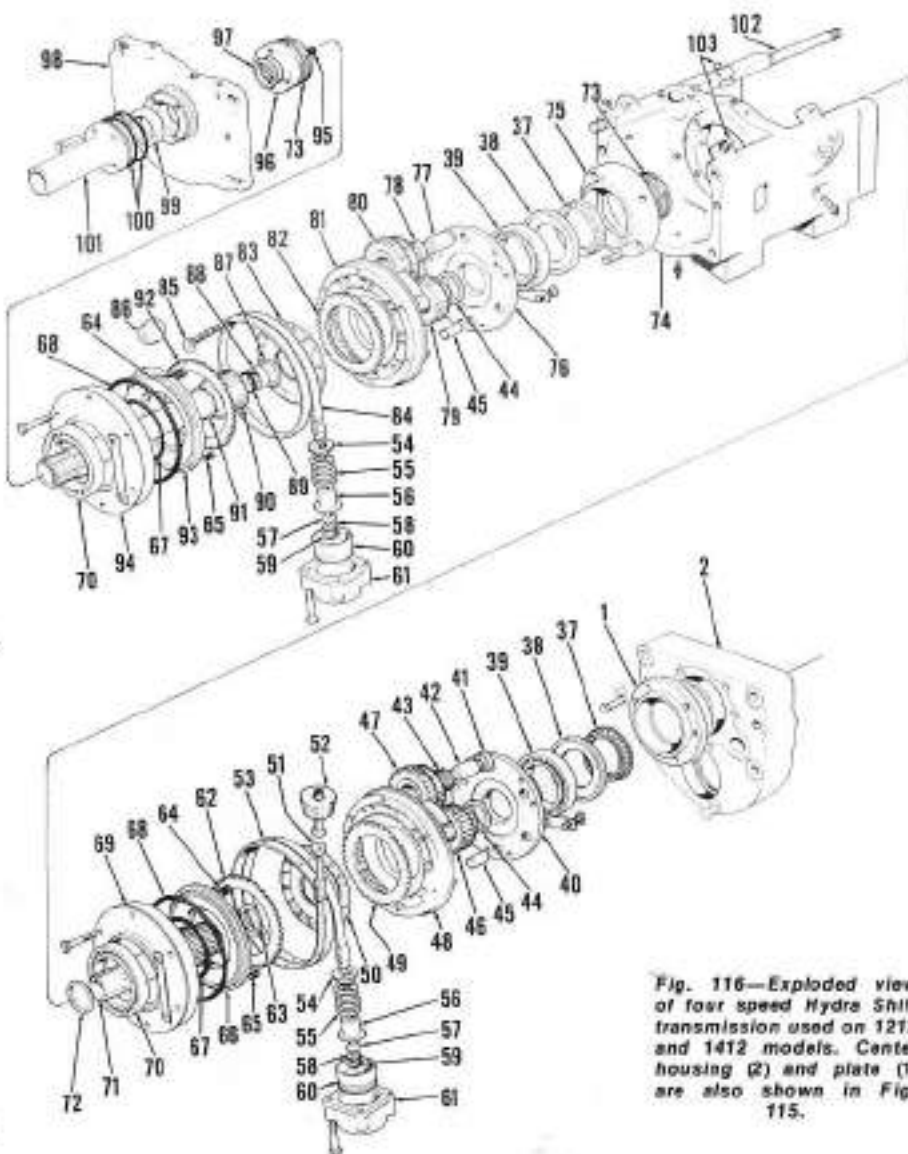

Fig. 116—Exploded view of four speed Hydra Shift transmission used on 1212 and 1412 models. Center housing (2) and plate (1) are also shown in Fig. 115.
175. Remove transmission from rear as outlined in paragraph 164. Identify and mark the two sequence valves (1 & 2-Fig. 120) so that valves can be reinstalled in original locations. Valves are alike but are adjusted to different settings. Remove both brake cylinders (61-Fig. 116 and Fig. 119) and loosen fixed ends of bands (53 & 84-Fig. 116). Remove snap rings (59-Fig. 116 and Fig. 119), flat washer (58) and nuts, then withdraw springs (55) and piston stops (54). Unbolt and remove support
snout (101-Fig. 116), then unbolt and remove front end plate (98). Rotate front unit so that one planet gear is at top of case, move upper ends of band inside case then remove band by withdrawing fixed end first, piston end last. Be sure that one planet gear is toward top, then carefully lever unit
Clutch plates must be free from distortion and not excessively worn. Depth of grooves in bronze clutch facings should be 0.003 inch deep. Buffer springs (64 & 65—Fig. 116) should protrude 0.050 inch. Height (H—Fig. 121A) with 2500 pound load should be 1.20-1.21 inches (wear limit 1.185 inches) for front clutch; 1.535-1.545 inches (wear limit 1.510 inches) for rear clutch. New clutch plates should be used when checking loaded height, but thickness of backing plates (1—Fig. 121A) is chosen by manufacturer to provide correct loaded height. Several different thicknesses of backing
To assemble the four speed section of transmission refer to Fig. 116 and proceed as follows:
Position the freewheeling cage (37) in plate (1) with flange toward rear (in) and abutment plate (38) with shoulder toward front (out). Be sure that thrust washer (44) is in place, then carefully slide the assembled four speed transmission (Fig. 116) over the studs (102) and engage splines of shaft (6-Fig. 115). Sliding the four speed section (Fig. 116) and range transmission section (Fig. 115) should be accomplished with both units in horizontal position. It will be necessary to rotate carrier assembly (40-Fig. 116) while engaging the rear freewheeling unit. Be careful not to damage freewheeling unit (37) or seal rings (73) while sliding assemblies together. Tighten nuts for studs (102) to 75 ft.-lbs.